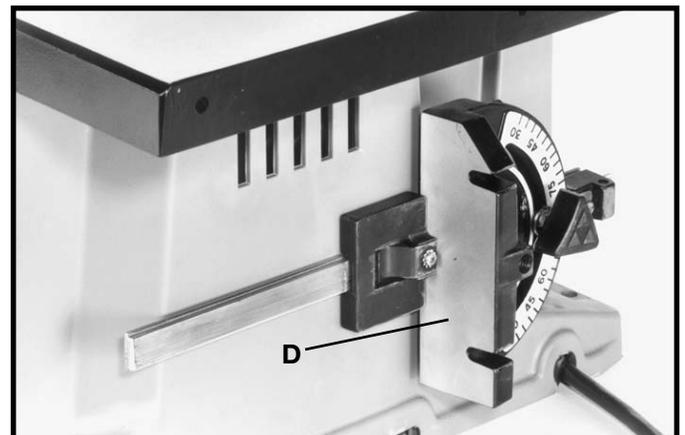

Fig. 30
4. Fig. 30, illustrates the miter gage (D) inserted into the miter gage holder when not in use.